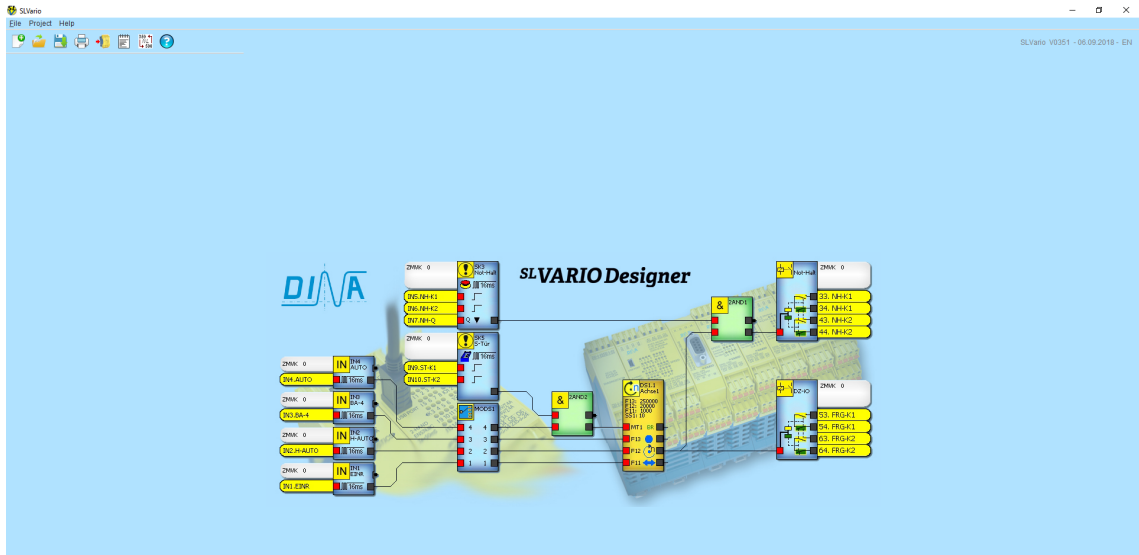

Fig. 2-1
- In the Start mask (Fig. 2-1), select the File menu item to open a project or start a new project with .